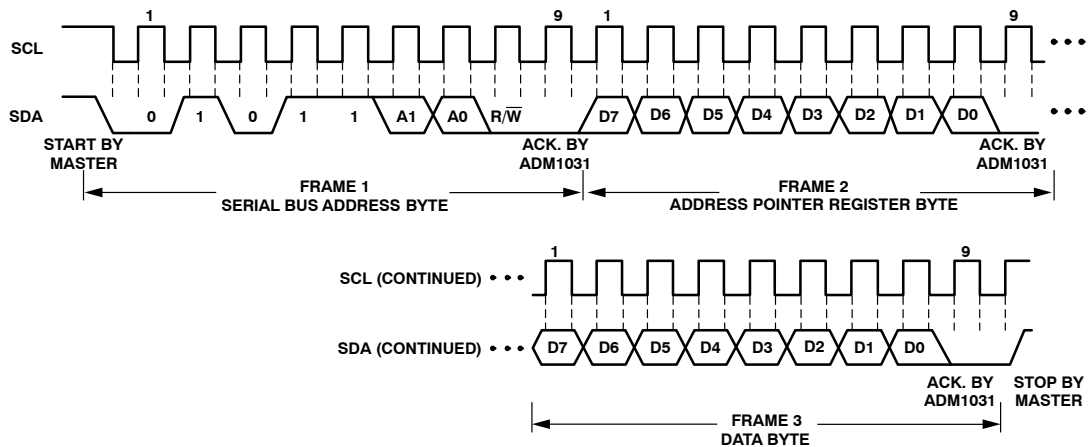
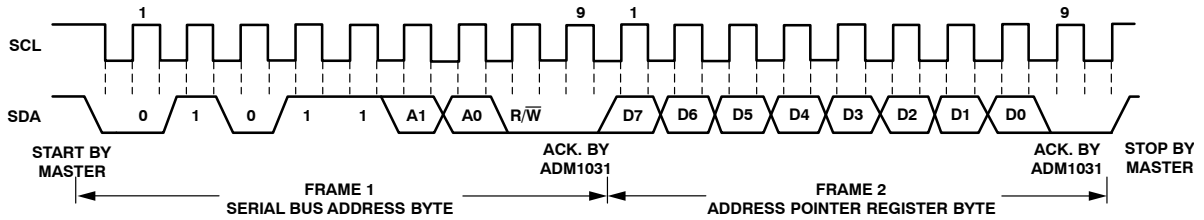
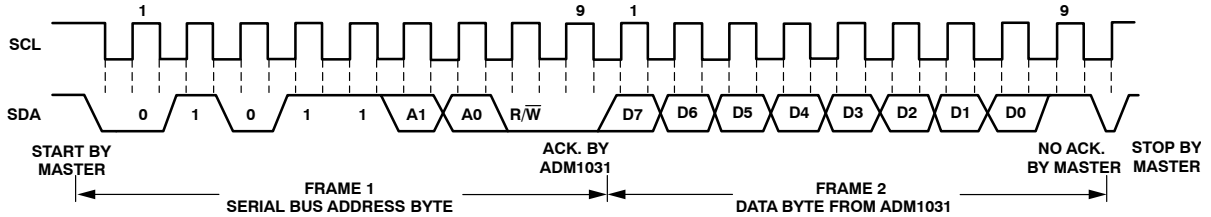

Figure 15. Writing a Register Address to the Address Pointer Register, then Writing Data to the Selected Register
Figure 16. Writing to the Address Pointer Register Only
Figure 17. Reading Data from a Previously Selected Register
This is illustrated in Figure 15. The device address is sent over the bus followed by R/W set to 0. This is followed by two data bytes. The first data byte is the address of the
- If the ADM1031's address pointer register value is unknown or not the desired value, it is first necessary to set it to the correct value before data can be read from the desired data register. This is done by performing a write to the ADM1031 as before, but only the data byte containing the register address is sent, as data is not to be written to the register. This is shown in Figure 16. A read operation is then performed consisting of the serial bus address, R/W bit set to 1, followed by the data byte read from the data register. This is shown in Figure 17.
- If the address pointer register is known to be already at the desired address, data can be read from the corresponding data register without first writing to the address pointer register, so Figure 16 can be omitted.
- In Figure 15, Figure 16, and Figure 17, the serial bus address is shown as the default value 01011(A1)(A0), where A1 and A0 are set by the three-state ADD pin.